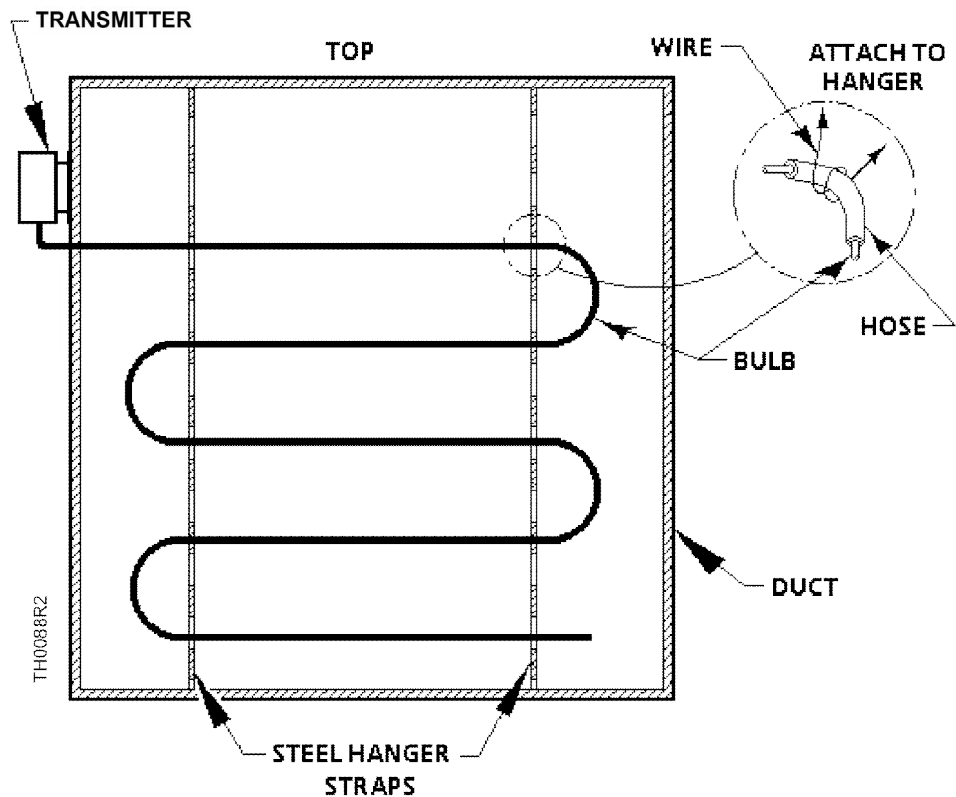

Figure 1. Typical Mounting in Walk-in Duct.
Large walk-in Ducts (Figure 1)
6. Mount the bulb in a horizontal, serpentine manner, attaching the bulb to the strap as shown in detail in Figure 1.